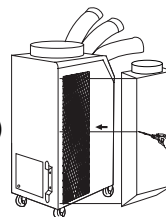

Figure 7
3. Use screws (enclosed inside of box with Condenser Plenum) to install the Condenser Plenum on the air conditioner as shown in Figure 7.